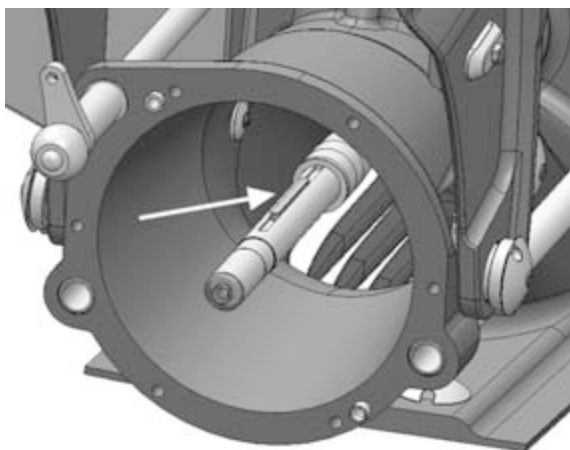

Figure 33. Wedge groove
3. When you find the right adjuster sleeve length, place the wedge in the shaft's groove (Figure 33) and push the impeller on the shaft against the adjuster sleeve.